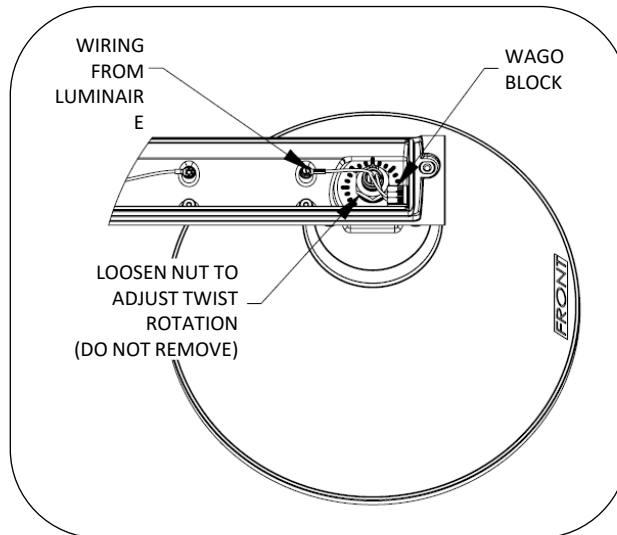

Fig. 6 – ADJUST TWIST ROTATION (AREA AND ACCENT LUMINAIRES)
1. With arm cover plate removed, disconnect lanyard and wiring to wago block at the luminaire hood, see Fig. 6, to allow access for socket to fit over nut.